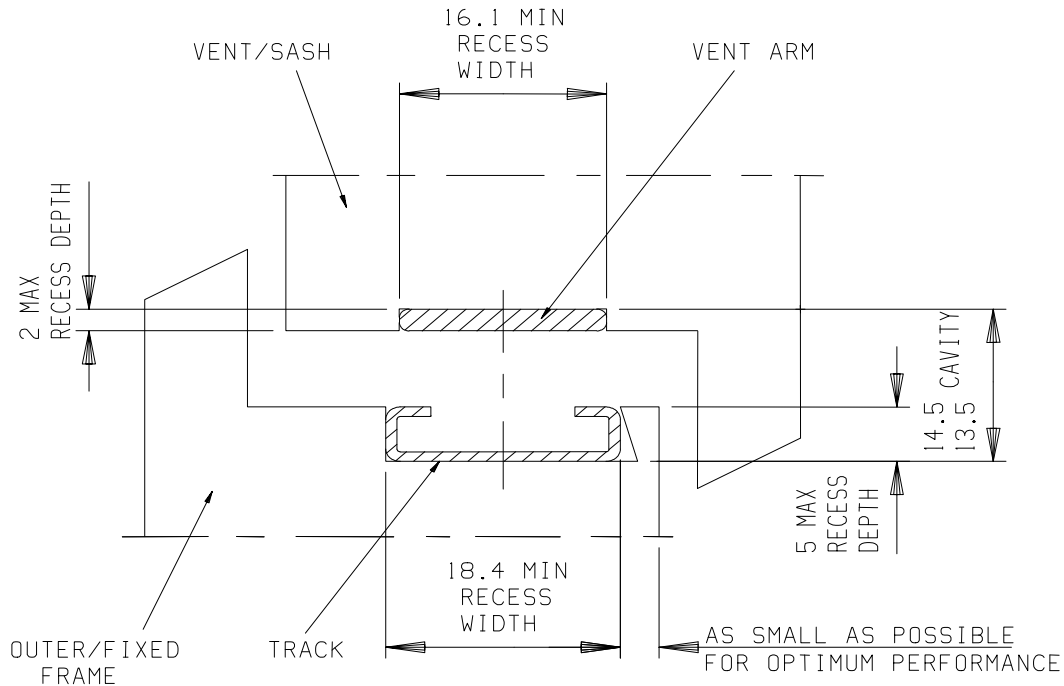

Fig. 1
8.1.7.1 Position the hinge track against any sideways hinge location features or in the hinge location channel on the frame, commonly the glazing bar clip channel. If the profile does not have hinge location features, determine the correct position by measuring/markings, (Fig. 1 at 8.1.2 will help).